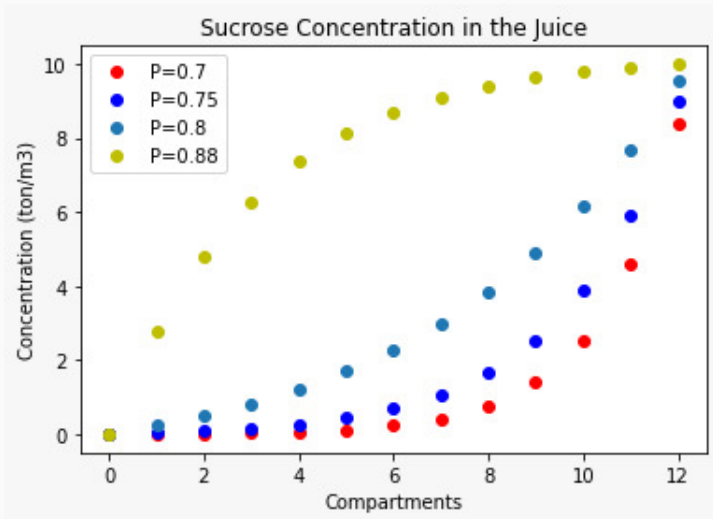

Figure 3: Sucrose concentration
- Figure 3 above shows the concentration of sucrose in the juice for varying values of P .